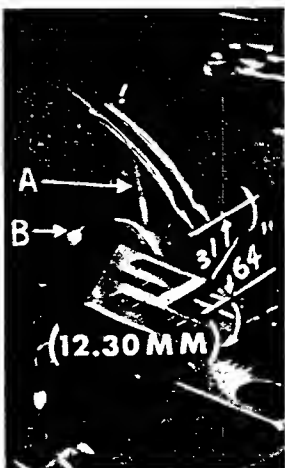

Fig. 3
With throat plate assembled in position, needles should center in the front end of needle slots. When needles are at high position, needle points should be set  $31/64$  inch (12.30 mm) above throat plate (Fig. 3). To align needles or set the height above the throat plate, move needle driving arm (A, Fig. 3) by loosening clamp screw (B). Remove throat plate, after needles have been set properly and clamp screw (B) has been tightened.